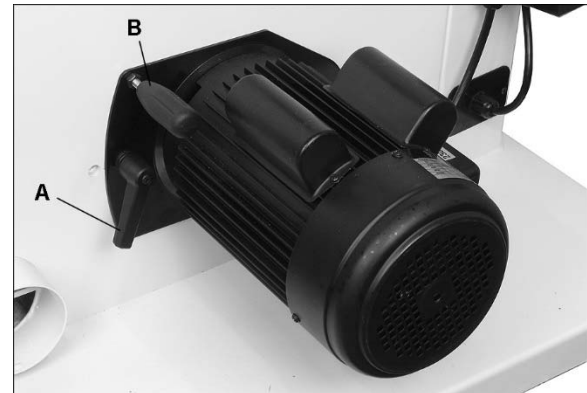

Figure 7-21
1. Loosen lock handle (A, Figure 7-21).
5. Loosen lock handle (A, Figure 7-21). Apply belt tension by slightly pushing down handle (B).
- Tighten lock handle (A) to secure motor position.
- Loosen motor lock handle (A, Figure 7-21).
- Raise motor lift handle (B) and retighten lock handle (A) to hold motor in raised position.
- Loosen motor lock handle (A, Figure 7-21) and allow motor to lower. Check tension by pushing